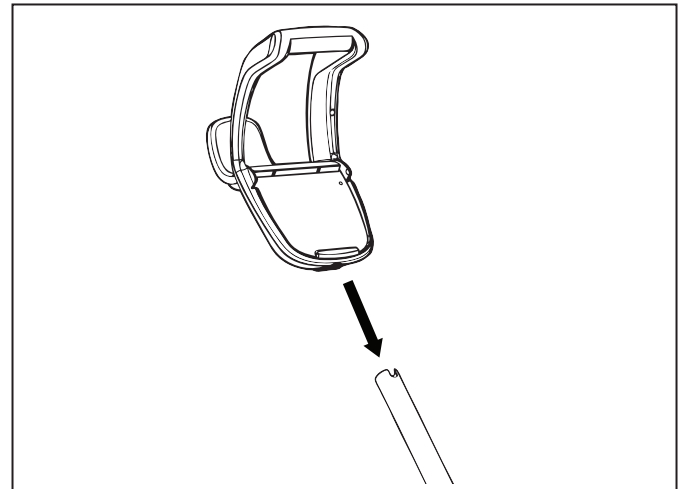

Figure 6. Attach Caddy Handle
7. Slide the control box base / caddy handle attachment down over the metal tubing until it snaps into place (Figure 6).